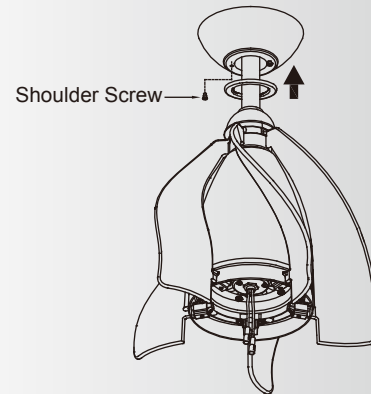

Fig. 19
Step 2. Assemble canopy by rotating key slot in canopy over shoulder screw in mounting bracket. Tighten shoulder screw. Fully assemble and tighten second shoulder screw that was previously removed. (Fig. 19)